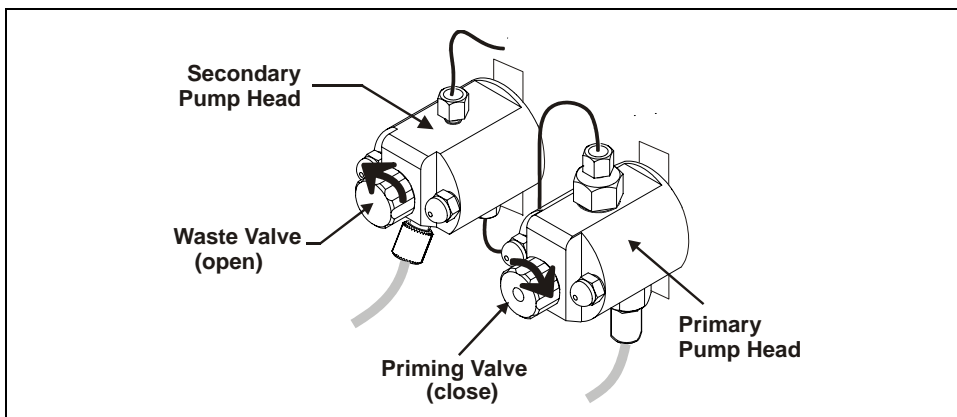

Figure B-29. Priming the Pump
1. Check that the priming valve on the primary pump head is closed (see Figure B-29).
2. Open the waste valve on the secondary pump head by turning the knob one-quarter to one-half turn counterclockwise (see Figure B-29). Opening the valve directs the eluent flow path to waste and eliminates backpressure.